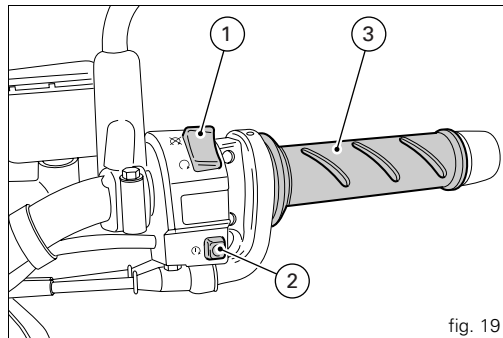

fig. 19
- 1) if the ECU recognises the code, the IMMO light (3, fig. 5) on the instrument panel will flash briefly. This means that the immobilizer system has recognised the key code and enabled engine ignition. When you press the  engine start button (2, fig. 19), the engine will start up;
Right-hand handlebar switch (fig. 19)
Throttle twistgrip (fig. 19)